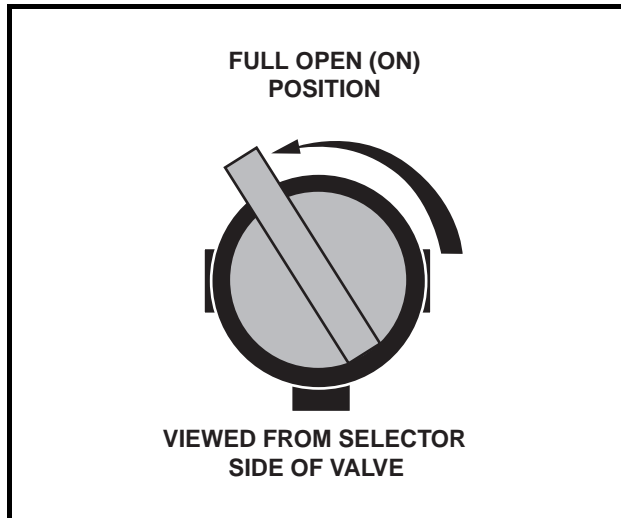
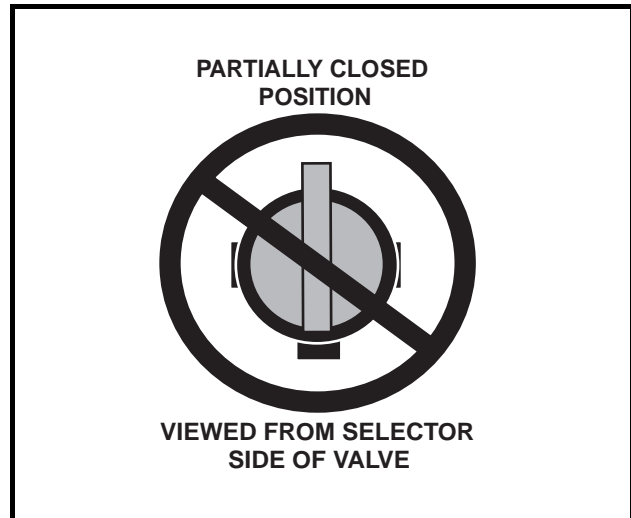

Figure 15 Fuel Shut-off Valve – Open Position
Figure 16 Fuel Valve – Partially Closed Position
6. Completely open the fuel shut-off valve (**Figure 15**). Make sure the valve is fully open. A partially closed fuel shut-off valve combined with the use of the choke can result in a fouled spark plug and engine failure (**Figure 16**).